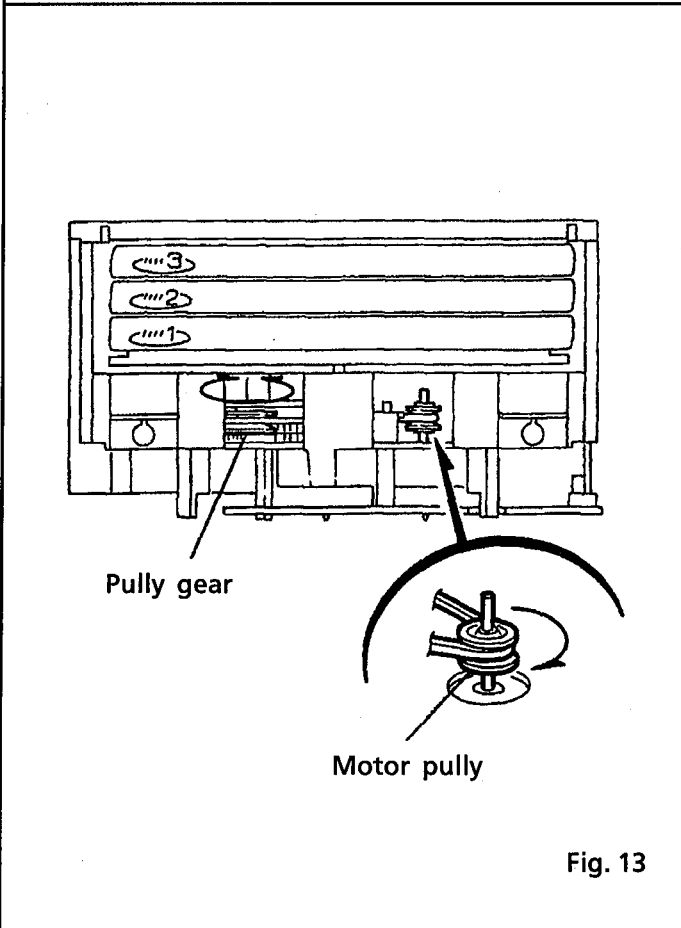
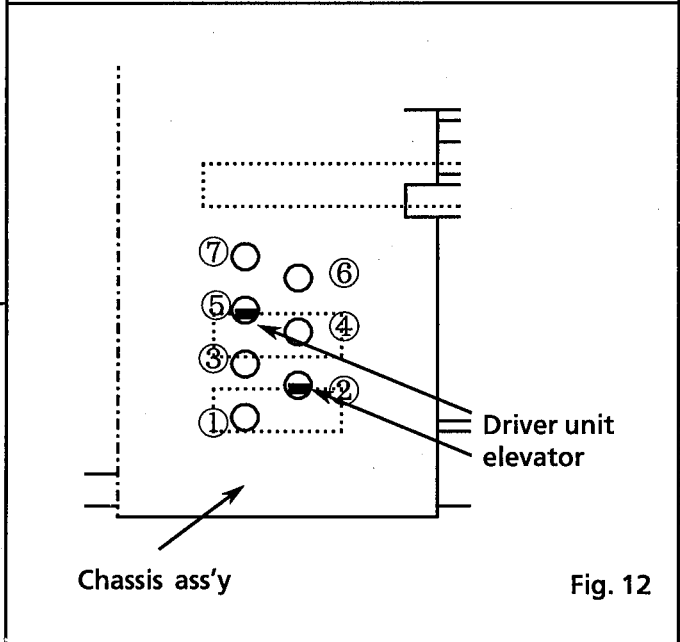

Fig. 13
Fig. 12
[NOTE] Set the elevator in correct position (Fig. 12) by rotating the pulley gear with finger if it is not positioned correctly (Fig. 13.).
12. Rotate the motor pulley clockwise with finger until the lifter unit's stopper is lowered from ③ hole located on the CD tray ass'y. (See Fig. 13.)
14. Press 2 pawls (f, f') located rear side of the CD tray ass'y according to an arrow ⑥ to remove the CD tray ass'y. (See Fig. 12.)